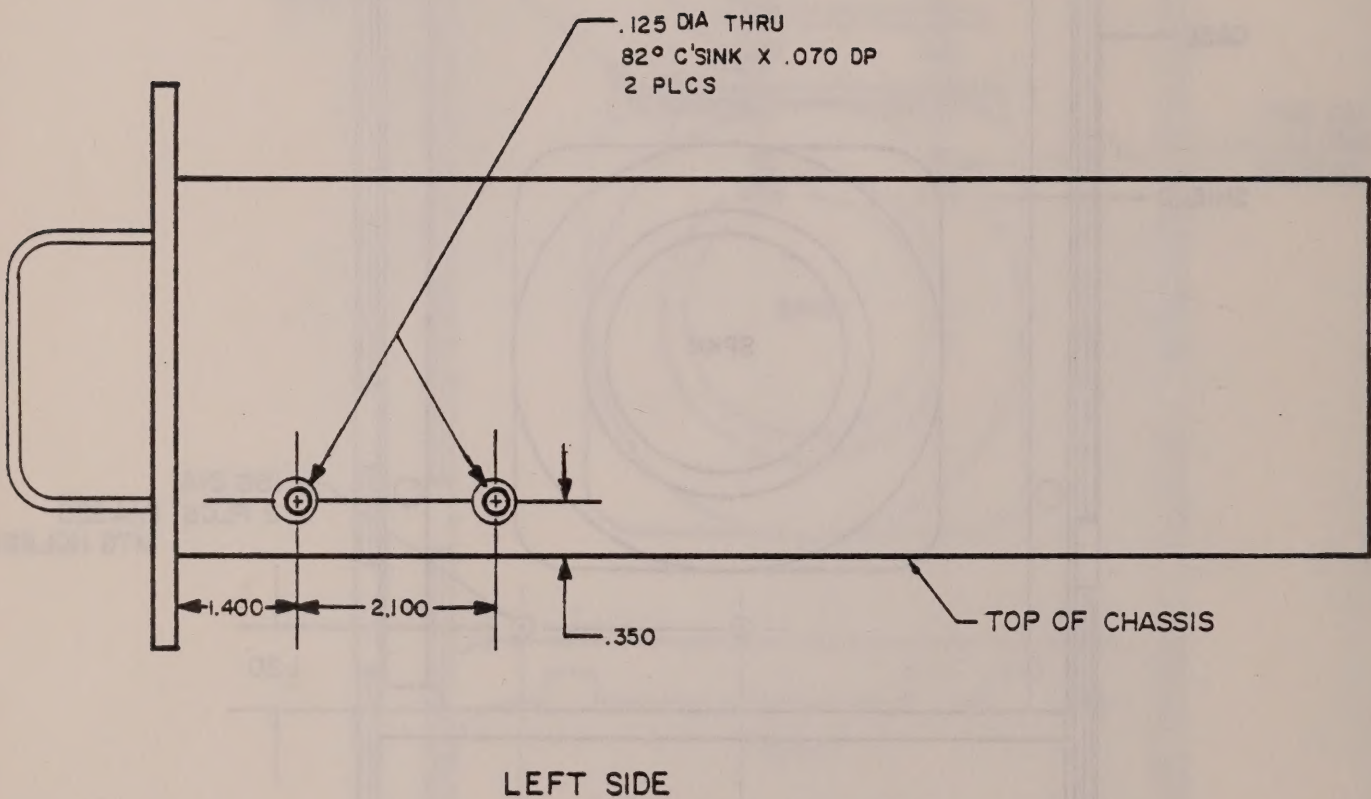

FIGURE 4
1. Locate and drill two 1/8" holes on chassis. See Figure 4.